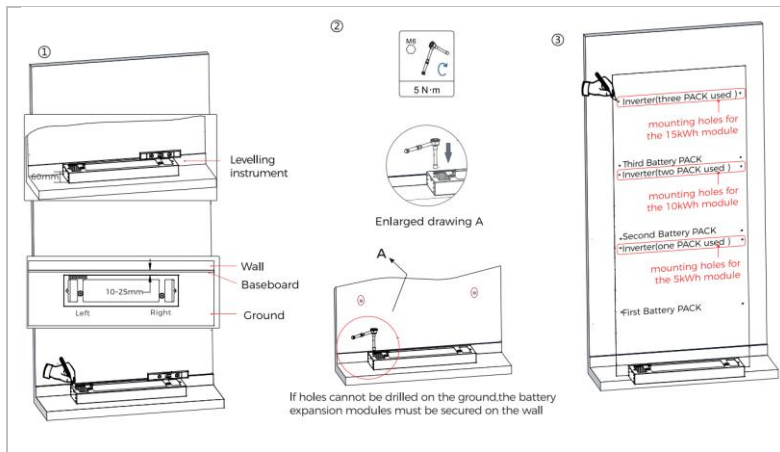

Figure 4-4 Pedestal installation
3. Use a marker to mark holes for securing the battery modules and inverters based on the dimensions shown in Figure 4.4